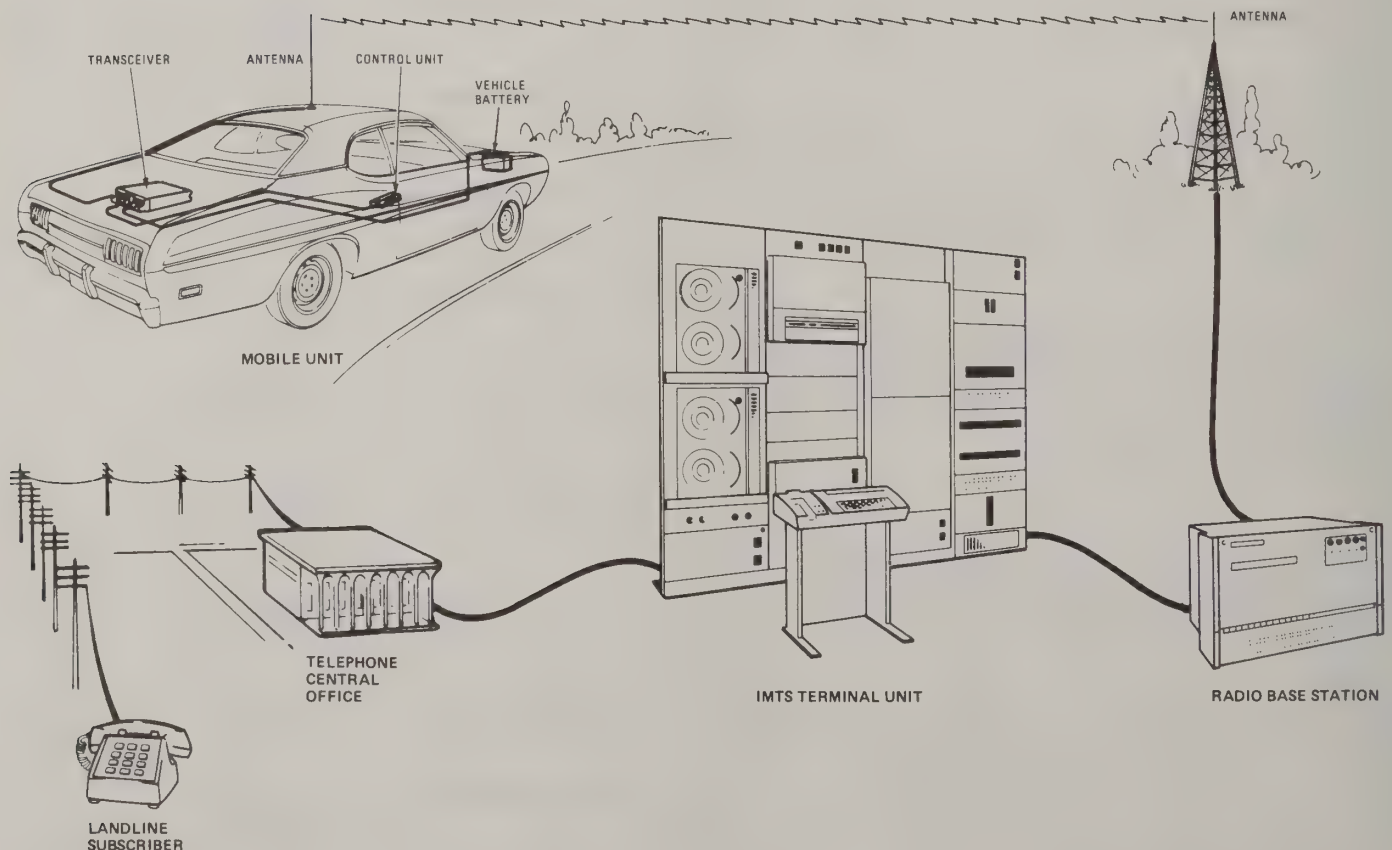

Figure 2. IMTS System
4.01 The IMTS system consists of a Telephone Central Office, a Base Station and a number of Mobile Units (figure 2). The Base Station and Telephone Central Office are connected by a two-way landline link, while the Base Station is connected to each Mobile Unit by a two-way radio link.